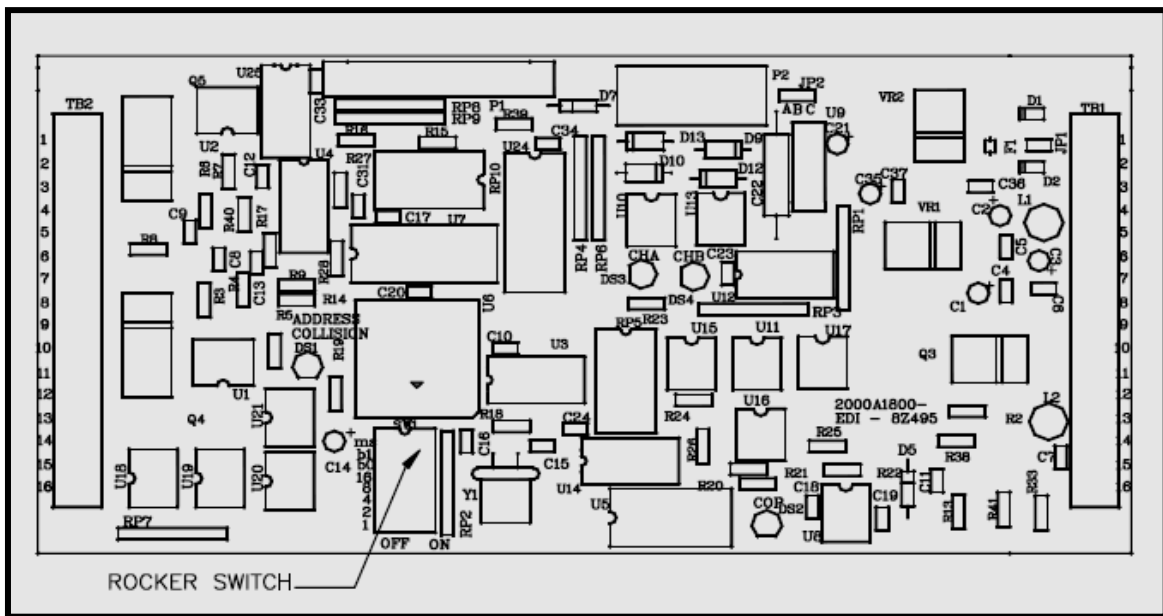

Figure 9-25.— IC/SM Controller Board.
- Remove the metal cover from the Controller Board. The cover is attached with screws and washers in six (6) places.
- Locate the eight position rocker switch on the Controller Board (Figure 9-23 and Figure 9-25).